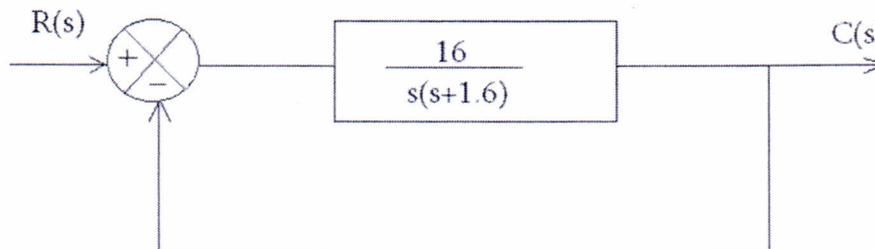

Figure Q6
- (c) For the unity feedback system shown in Figure Q6, the damping ratio is required to be made 0.8, by using derivative control. Calculate the value  $T_d$  and compare the rise time, peak time and maximum overshoot for the system with and without a derivate controller. [10 karks]